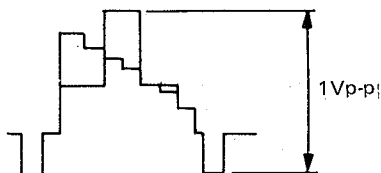

Figure 48.
- 3) Adjust R414 (PB. LEV.) so that 1Vp-p can be obtained between SYNC. TIP and white peak as shown in Fig. 48.